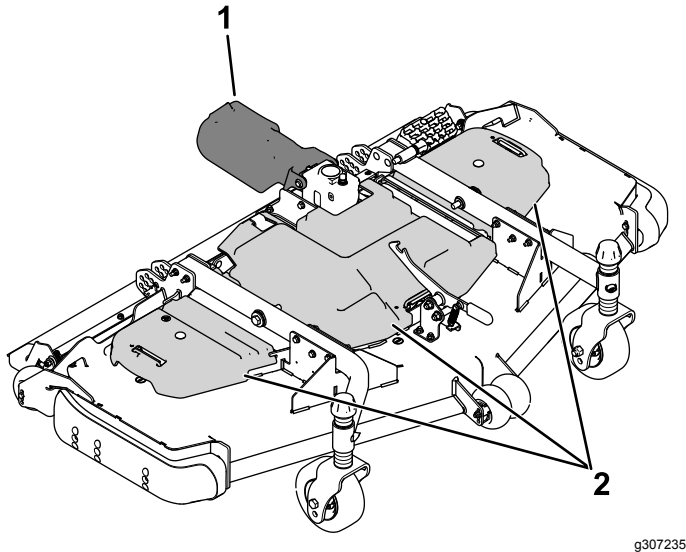

Figure 1
1. Remove the belt covers and driveshaft cover (Figure 1).